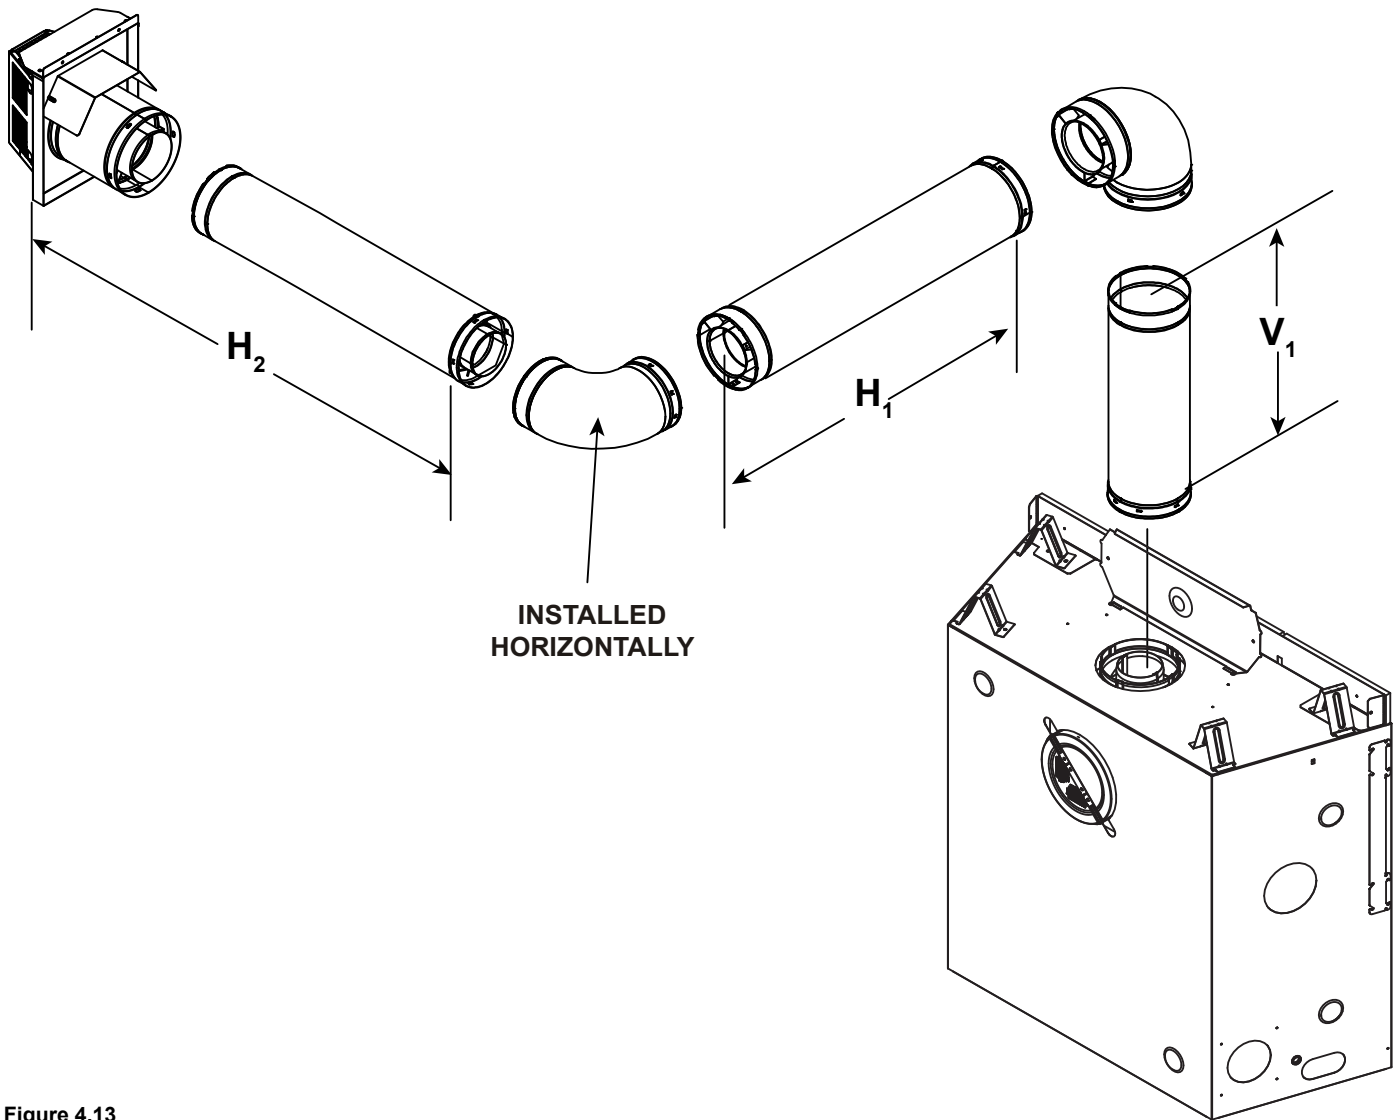

Figure 4.13
- **Top Vented:** A maximum of four 90° elbows (or eight 45° elbows) may be used in any vent configuration. See Figure 4.19. Some elbows may be installed horizontally. See Figure 4.13 and 4.18.